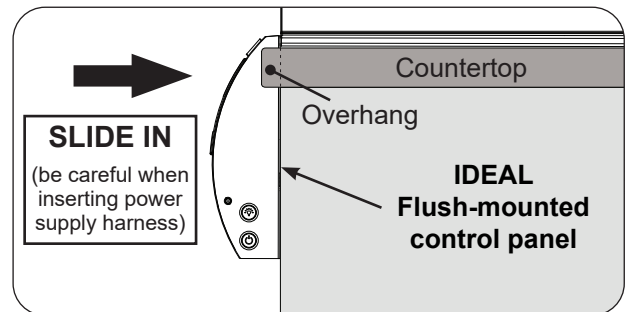

Fig. 26-2 Slide in unit (ensure flush)
- Ensure the unit fully slides in so that the control panel sits flush against the enclosure front wall. See the COUNTERTOP OVERHANG section in ENCLOSURE REQUIREMENTS for details (see Fig. 26-2).